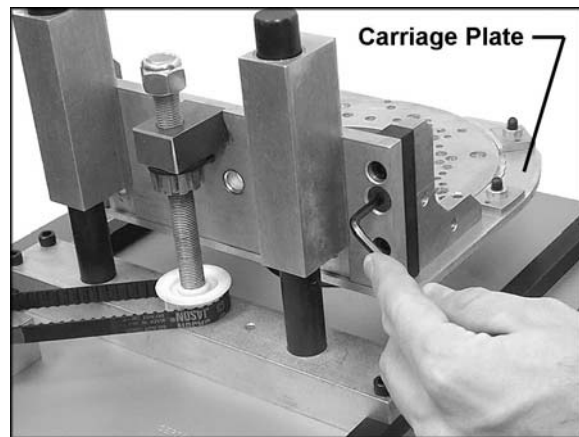

Figure 1
1. Turn your Rout-R-Lift upside down on the table. With the 5/32 hex wrench supplied, remove the four 1/4-20 x 1 flat head cap screws (Figure 1) and remove the aluminum carriage plate. (NOTE: If the screws are blocked, crank the Rout-R-Lift with the adjustment handle until all four screws are exposed.)